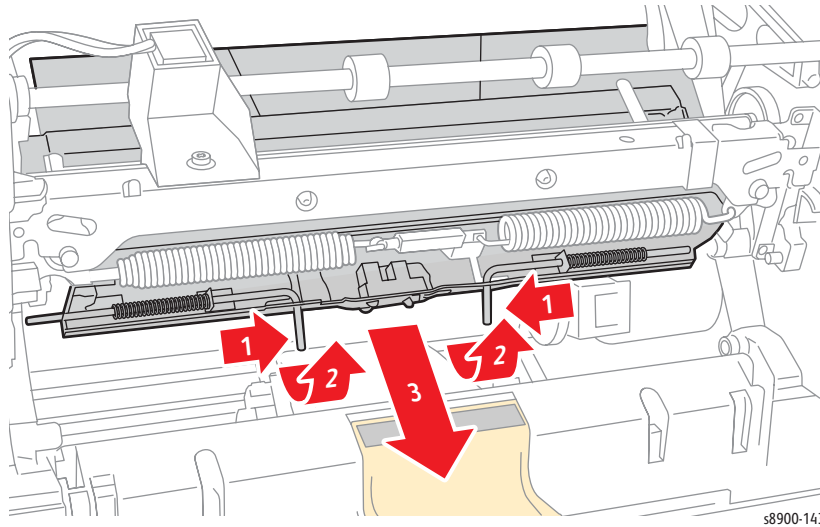

Figure 2 - Removing the Preheater
5. Slide the latches in and forward to release the Preheater as shown in Figure 2 - Removing the Preheater.